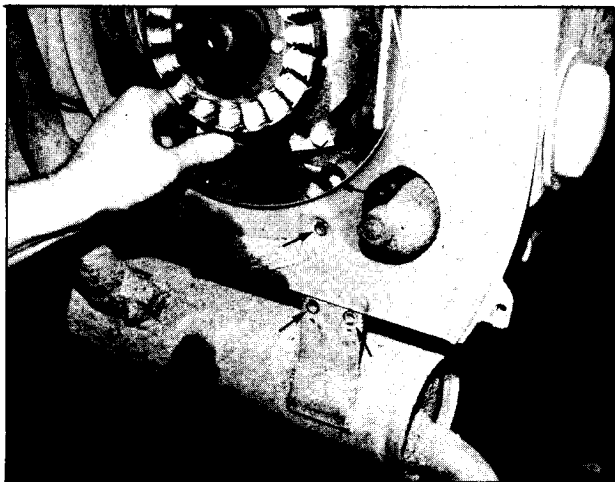

Figure 7.
9. Remove the rear muffler mounting bracket by removing the four attaching bolts (see Figure 7).